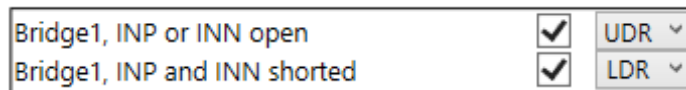

Figure 109. UDR/LDR Selection
- UDR/LDR drop-down lists: Defines if an upper or lower diagnostic range of signalization level is used on the AOUT and/or FOUT pins for the selected check (Figure 109).